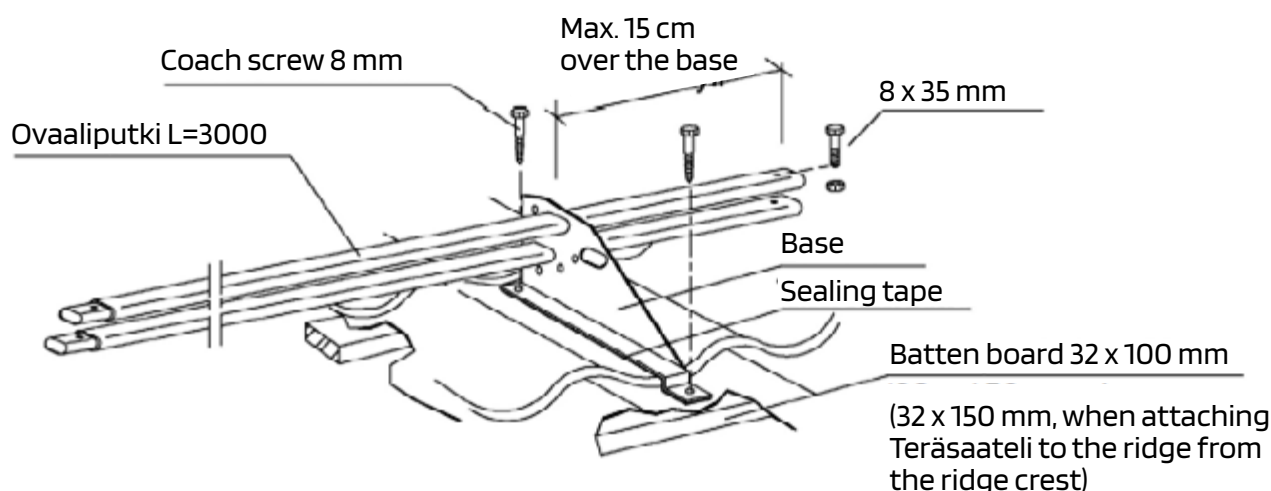

Figure 26. Fixing a snow breaker.
Using a tubular snow breaker is recommended at least at locations where people will walk near or under the eaves or there are plants on the ground that might be damaged by falling snow. The tubular snow breaker must be installed on the roof in an area where snow piles up over a load-bearing wall. Fix the bases of the snow breaker (four bases per set) onto the bottom of a roofing sheet bend parallel to a transverse bend (place a sealing strip of 3 x 30 mm in between the base and the roofing sheet) with 8 mm coach screws or (if possible) with a bolt and nut. Push the oval tubes (2) in place and insert 8 x 35 mm bolts through the holes at their ends to prevent the tubes from sliding out sideways (Figure 26).